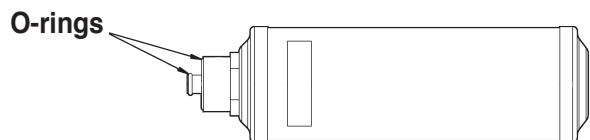

Figure 9
6. Look at the new filter—verify both o-rings are lubricated and correctly located in the grooves. See Figure 9. Thread the new filter into place. Press **START / YES**.